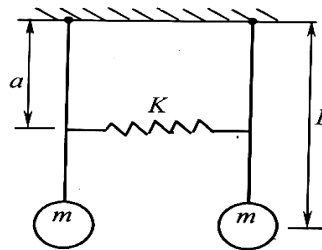

Fig. Q7
- 7. Two simple pendulums are connected by a spring as shown in Fig. Q7. Determine the natural frequencies and corresponding mode shapes. 20